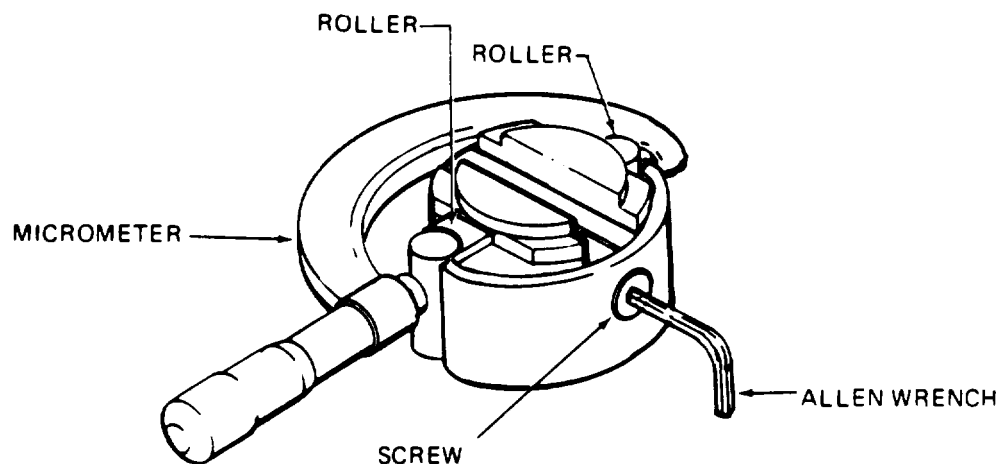

Figure 3-22. Adjusting Fuel Injection Pump Roller-to-Roller Dimension
- (8) Place the hydraulic head and rotor in the holding fixture. Insert plungers (127) into the rotor bores. Install shoes (126), rollers (125) and leaf springs (124).
- (9) Adjust roller-to-roller dimension as follows: (See figure 3-22.)